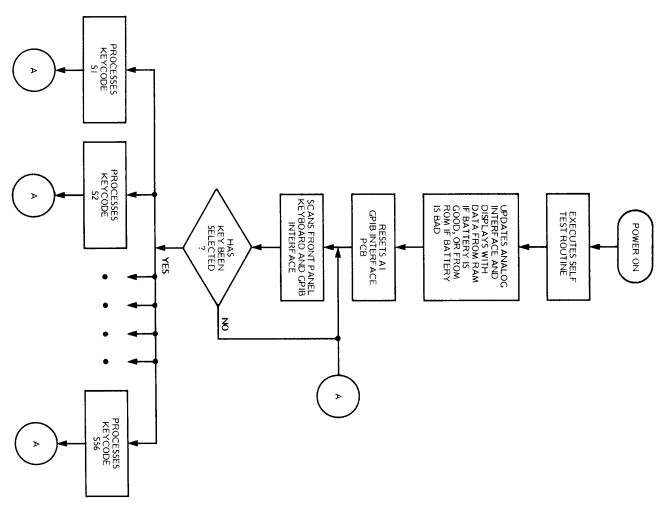
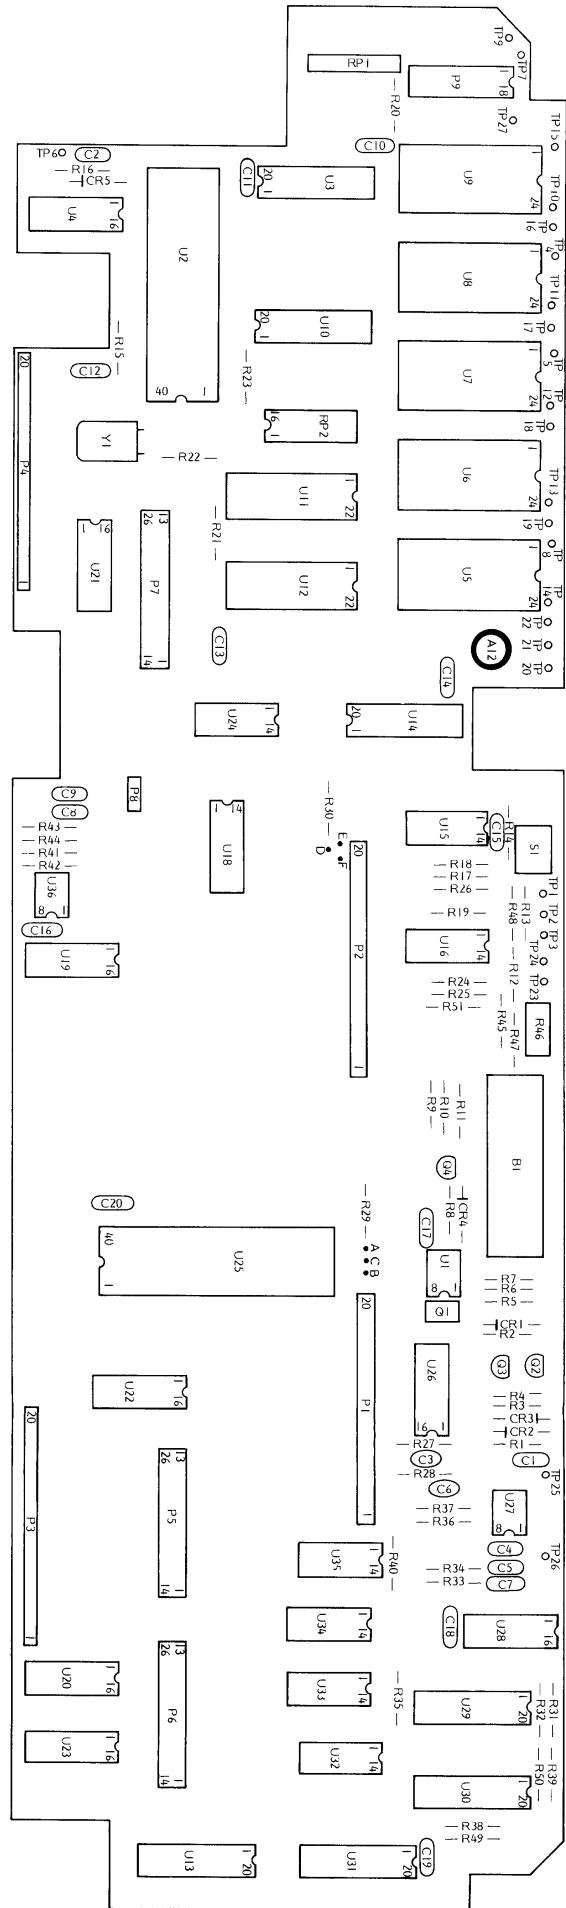

Figure 7-10. A12 Microprocessor PCB AC Power-On Operational Flowchart
Figure 7-11. A12 Microprocessor PCB Parts Locator Diagram
provided in Appendix III. A flowchart showing the microprocessor's ac power-on operational program is provided in Figure 7-10. A parts locator diagram for the A12 PCB is provided in Figure 7-11. And the A12 PCB schematics (5 sheets) are provided in Figure 7-12.
- d. 2716 ROM (U5-U9). The ROM circuits contain both the microprocessor ac power-on operational program (Figure 7-10) and the reset (default) parameter data (paragraph 3-7.1).